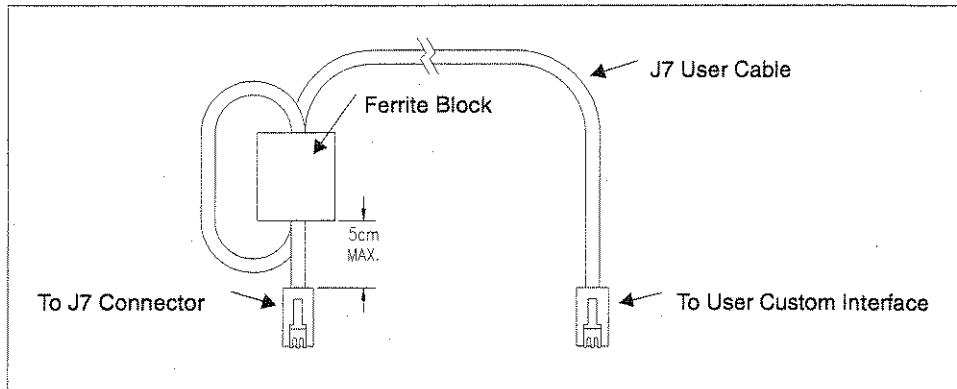

Figure 2.6 J7 User Cable with Ferrite Block
3. Loop the cable through the ferrite block. See Figure 2.6, "J7 User Cable with Ferrite Block" on page 32.